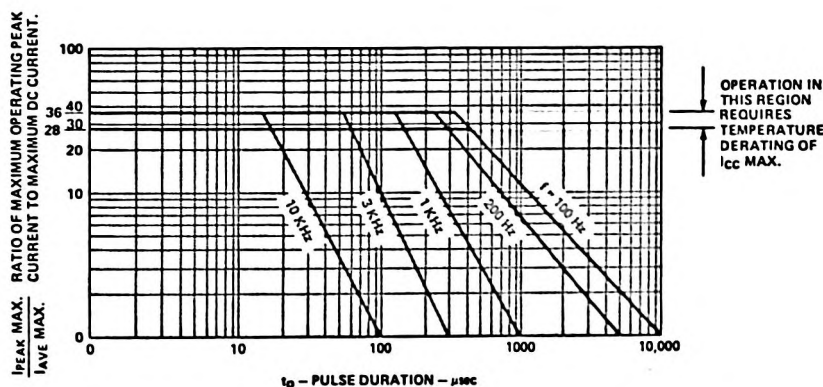

Figure 1. Maximum Tolerable Peak Current vs. Pulse Duration HDSP-8820
7. See Figures 1 and 2 to establish pulsed operating conditions.